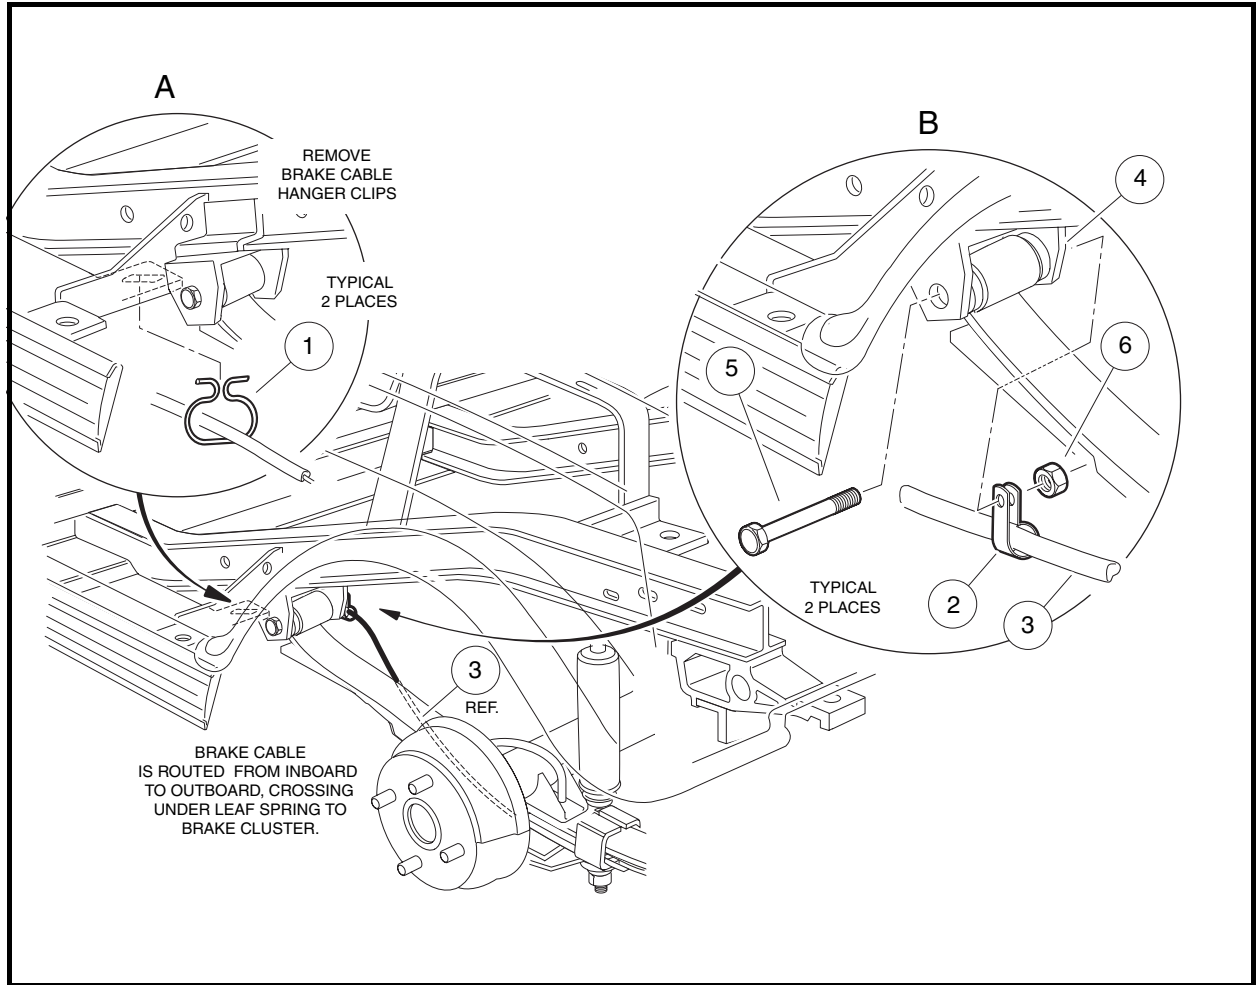

Figure 6-20 Brake Cable Clip and P-Clamp
8. Locate the brake cable hanger clip (1), if equipped, on the frame and remove it from the vehicle (**Figure 6-20, Page 6-12**). Discard the clip.
9. Remove the forward leaf spring mounting bolt (3/8-16 x 3-3/8-inch) (5) and 3/8-16 nylon locknut (6). Discard the mounting bolt.
4. Insert a new 3/8-16 x 3-1/2-inch hex-head bolt (5) through the leaf spring mount and leaf spring (**Figure 6-20, Page 6-12**).